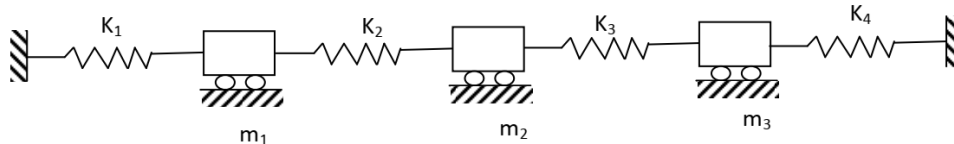

Fig. 2
- Q3** a) In a spring mass system the mass of 10 kg makes 40 oscillations in 20 second without damper. With damper, the amplitude decreases to 0.2 of original value after 5 oscillations. Find out- a) stiffness of spring b) logarithmic decrement c) Damping factor d) Damping coefficient. (5)
- b) A machine of mass 75 kg is mounted on an isolator having stiffness  $1200 \times 10^3$  N/m and a damping factor 0.2. A reciprocating part of 2 kg has 80 mm stroke. If the crank speed is 3000 r.p.m., determine-a) the amplitude of machine b) the phase angle c) the force transmitted to the foundation. (5)
- Q4** a) Explain the method to determine the critical speed of shaft carrying single rotor neglecting damping. (5)
- b) A 100 kg machine is mounted on a table of stiffness  $1.5 \times 10^5$  N/m. During operation, it is subjected to a harmonic excitation of magnitude 1500 N at 50 rad/s. Find the required stiffness of a 5 kg absorber to eliminate the steady state vibrations of the machine during operation. (5)
- Q5** a) What is semi-definite system? Explain with suitable sketch and compute value of the natural frequencies. (5)
- b) Determine the stiffness influence coefficients for the three degrees of freedom system shown in the Fig. 2. (5)